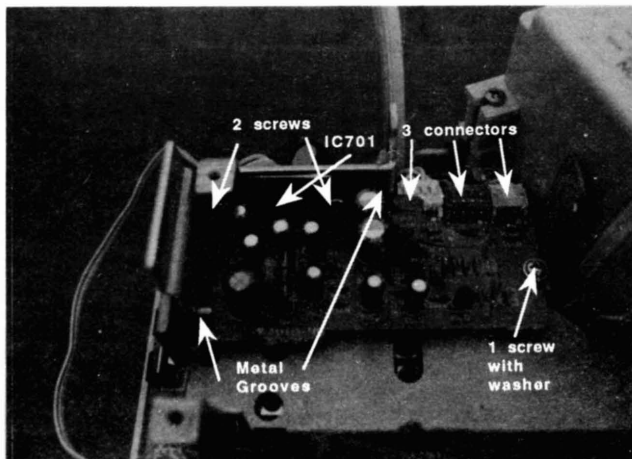

Figure 13
31. Tweeter Amp PCB Removal (Figure 13)
32. Tweeter Amp PCB Installation (Figure 13)